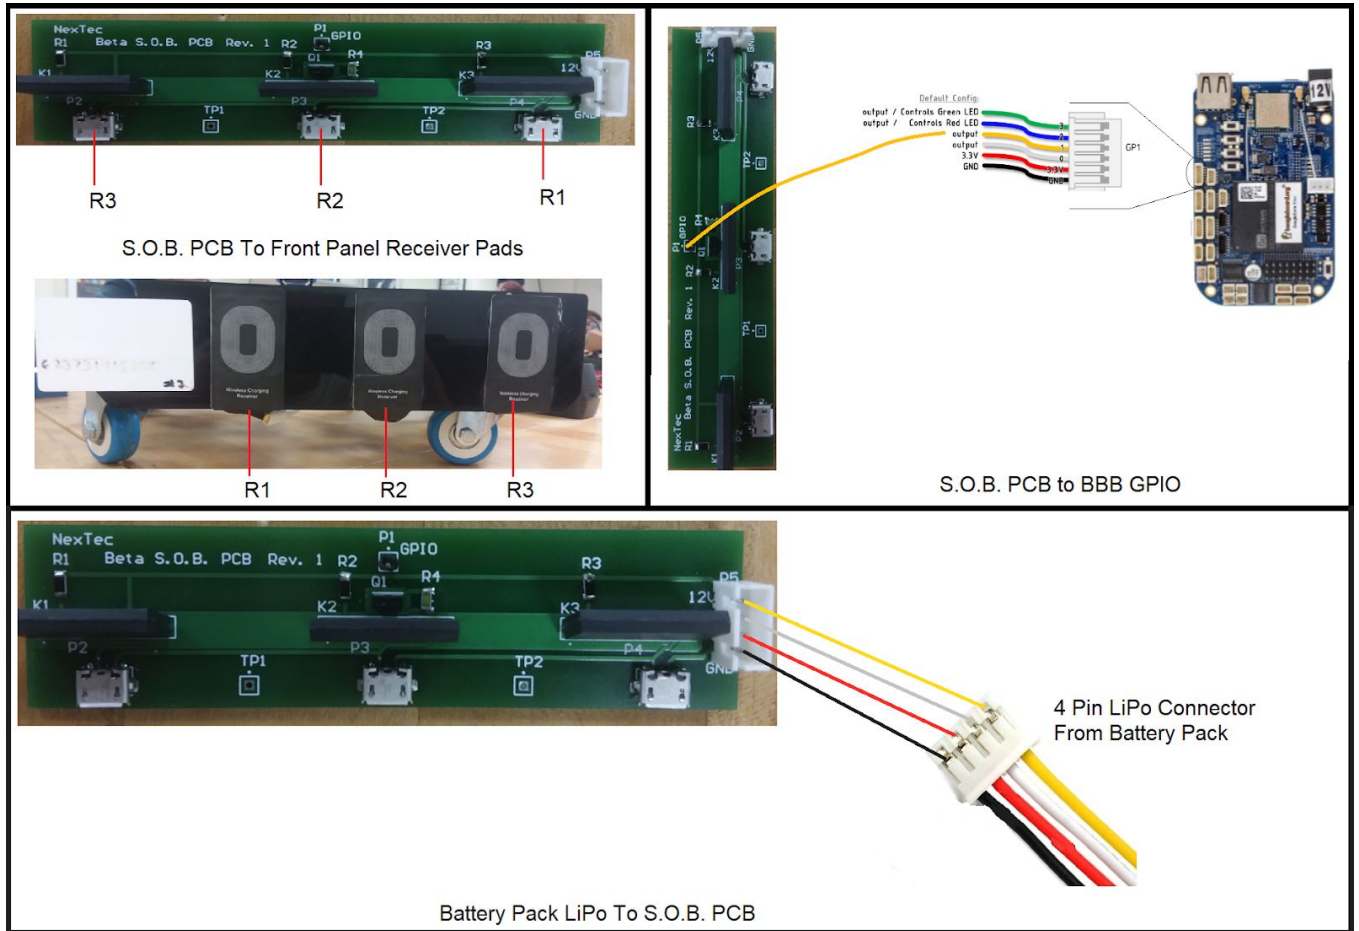

Figure 1.2: S.O.B. Wiring Diagram
- 3) Follow the wiring graphic shown below in Figure 1.2 and ensure the proper connections are made. (Your battery pack should already have the LiPo connectors. If not, refer to "The On-Board Module")